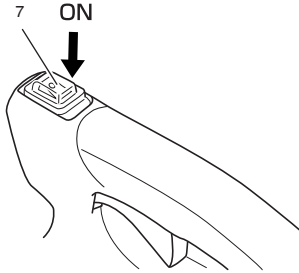

Fig. 4
1. Check the switch (7) to ON position. (Fig. 4)